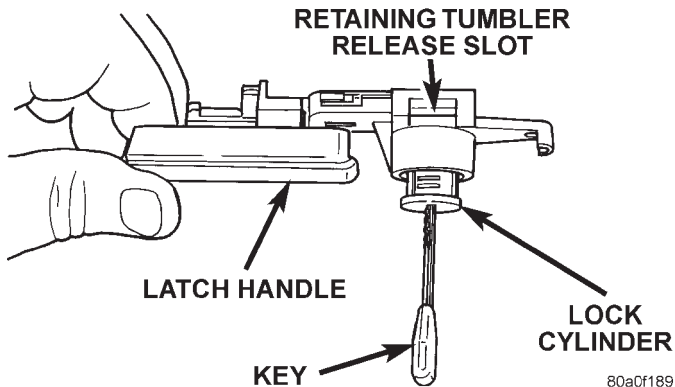

Fig. 20 Glove Box Lock Cylinder Remove/Install
(3) Insert a small screwdriver into the retaining tumbler release slot and depress the retaining tumbler (Fig. 20).